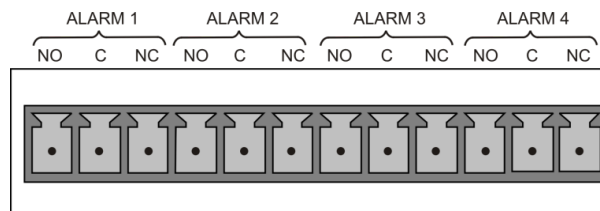

Figure 2-9. Concentration Alarm Relay
The concentration relay option provides four (4) “dry contact” relays on the rear panel (Figure 2-9), each with 3 pins: Common (C), Normally Open (NO), and Normally Closed (NC). The Relays can be mapped to reflect various internal instrument conditions and states. Configure these outputs through the Setup>Digital Outputs menu (Section 2.5.7) under MB Relay [1 thru 4].